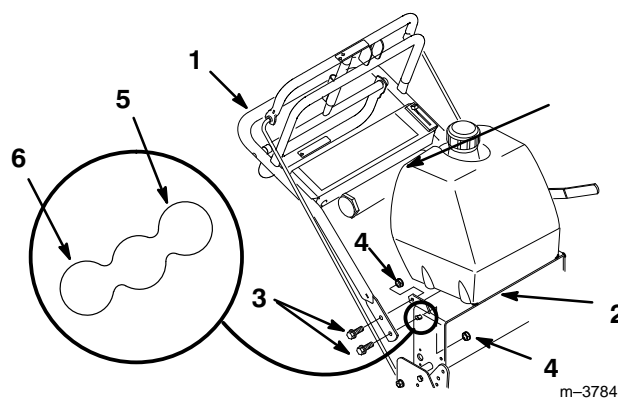

Figure 2
1. Position handle outside frame and align upper handle mounting holes with desired mounting holes in rear frame. High, medium or low according to operators height (Fig. 2).
2. Secure each side with (2) 3/8-16 x 1" (26mm) bolts and (2) 3/8-16 locknuts (Fig. 2).